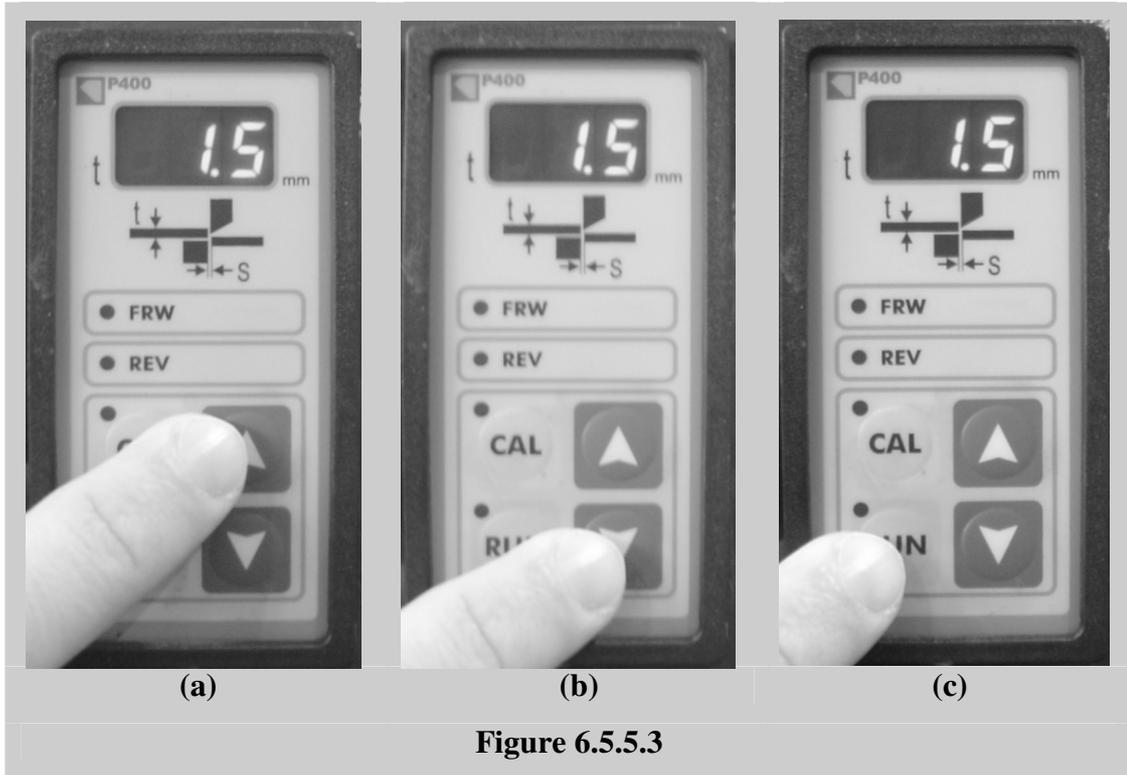

Figure 6.5.5.3
Blade gap is adjusted by means of the digital controller on the control panel as shown in **Figure 6.5.5.3** below
- 1 Enter required material thickness by using **Up/Down** keys on the digital controller (See in **Figure 6.5.5.3.a** and **Figure 6.5.5.3.b**)
- 2 Then, press **RUN** key to set correct gap between blades (See in **Figure 6.5.5.3.c**).